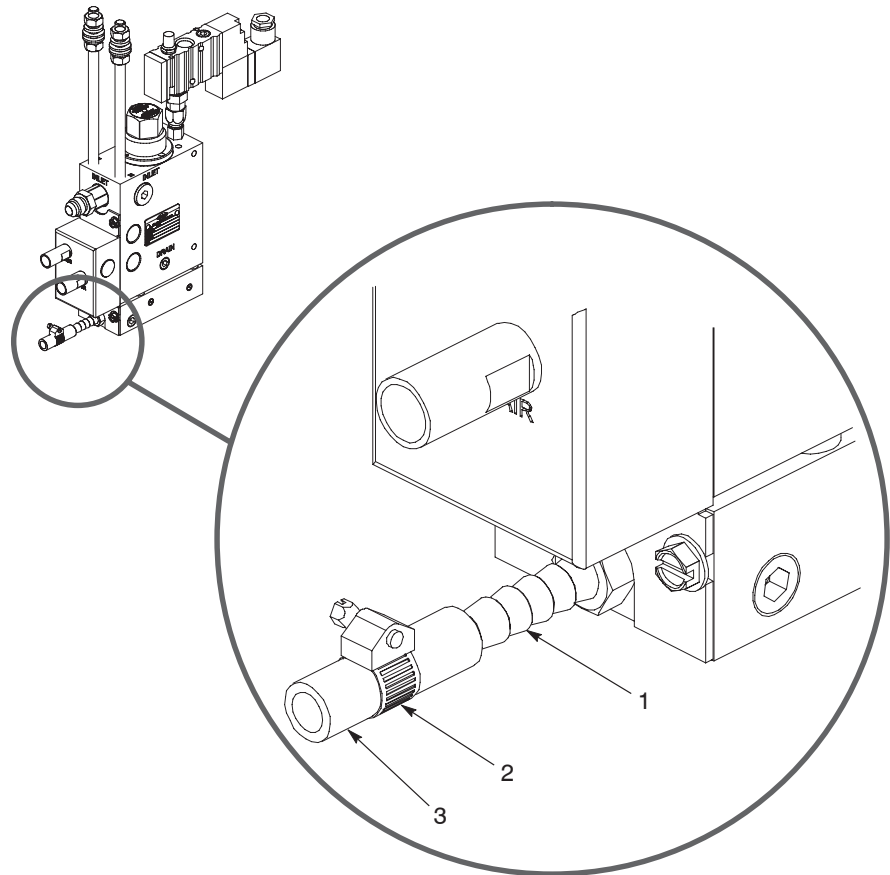

Figure 3-7 Pattern air supply connection (typical)
See Figure 3-7. Use the clamp (2) and tubing (3) from the ship-with kit to connect a supply of dry, regulated, unlubricated air to the pattern air inlet fitting (1). To determine where the pattern air inlet on your applicator is located, refer to the applicator reference drawing in *Applicator-Specific Reference Drawings* in Section 8, *Parts*.